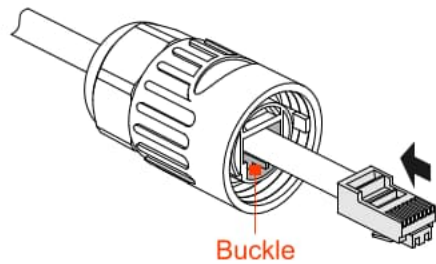

Figure3-29 Buckle position
- Step 2 After crimping, insert the RJ45 plug into the buckle (as shown in Figure3-29), and then, screw the RJ45 port.